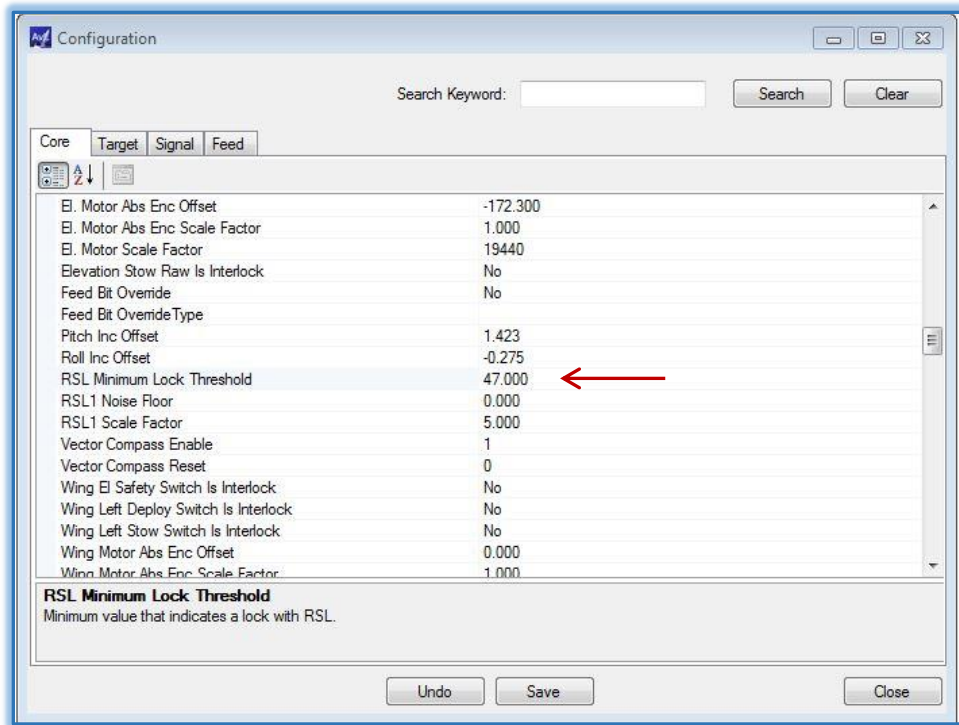

Figure 5.9.8b – RSL Min Lock Threshold
-RSL Minimum Lock Threshold (under Core parameters for level 4, see figure 5.9.8b below)